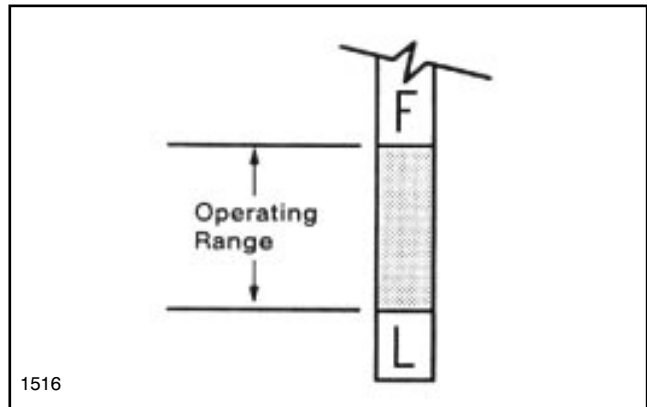

FIG. 15
2. Add oil if necessary to bring the level up to, but not over, the "F" mark on the dipstick (See FIG. 15). For detailed instructions see BEFORE OPERATING, CHECK ENGINE CRANKCASE OIL ON page 15.
7. Fill the crankcase with new oil of the proper type to the "F" mark on the dipstick. See FIG. 15, page 34.